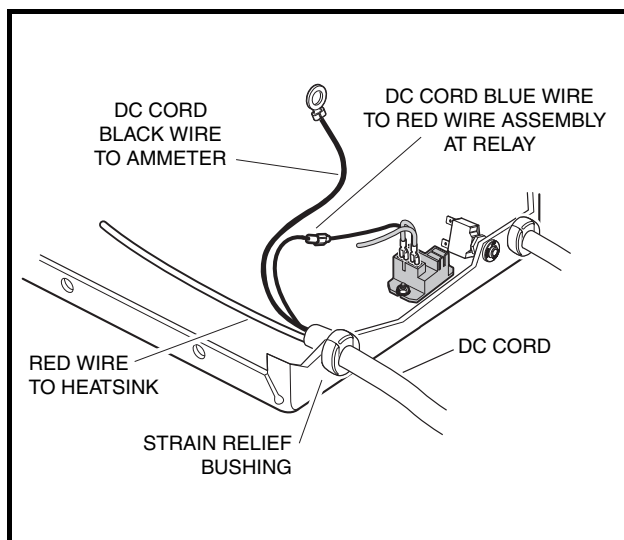
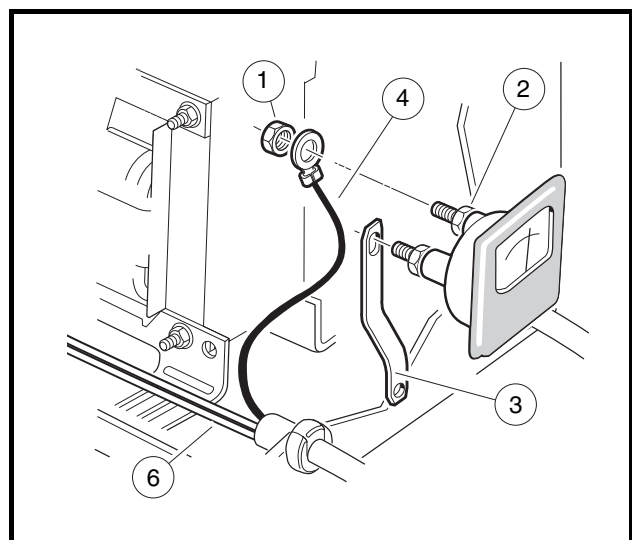

Figure 8-16 DC Cord
Figure 8-17 DC Cord Replacement
3. To check the continuity of the DC cord, disconnect the black wire of the DC cord from the ammeter **(Figure 8-16, Page 8-23)**.
3. Remove the DC cord black wire (4) from the ammeter by loosening the nut (1). Support the terminal as the nut is loosened to prevent rotation of the connection (Figure 8-17, Page 8-23).
4. Remove nut attaching the red wire (6) of the charger DC cord to the heatsink.
7. Disconnect the DC cord blue wire from the red wire assembly that connects to the charger relay (Figure 8-16, Page 8-23).
8. Using pliers, squeeze the strain relief bushing and remove the DC cord (Figure 8-16, Page 8-23).
2. Attach the red wire of the new DC cord to the center terminal of the heatsink and tighten the nut to 18 in-lb (2.0 N·m) (**Figure 8-16, Page 8-23**).
3. Attach the blue wire of the new DC cord to the red wire assembly at the charger relay (**Figure 8-16, Page 8-23**).
4. Attach black wire (4) of the new DC cord to ammeter. Install nut (1) onto post of ammeter slightly more than finger tight. While holding the inside nut (2), tighten the outside nut (1) 1/4 turn (**Figure 8-17, Page 8-23**). **See following CAUTION.**